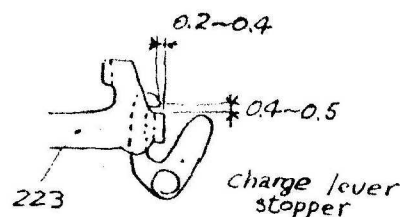

Fig. 12
a) When the charge lever (223) is positioned at the top dead center of the charge cam (237) by gently winding the wind lever (3), there must be a clearance of 0.4 mm to 0.5 mm between the charge lever (223) and the charge lever stopper.
b) The charge lever (223) and the charge lever stopper should be connected as shown in Fig. 12.